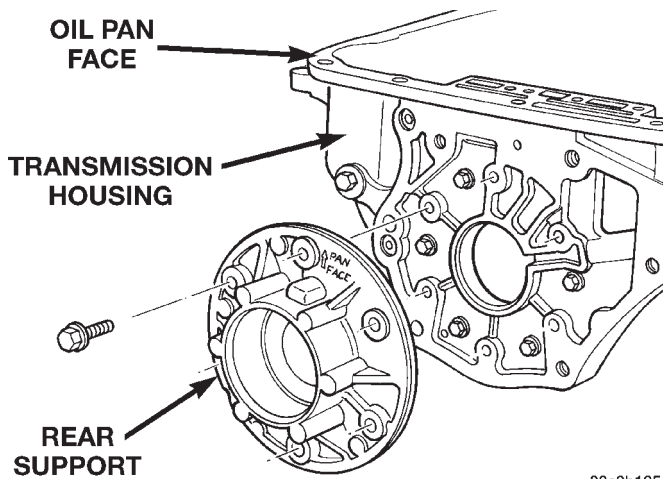

Fig. 86 Rear Support
(28) Remove bolts attaching rear support to transmission case and pull support from low-reverse drum (Fig. 86).